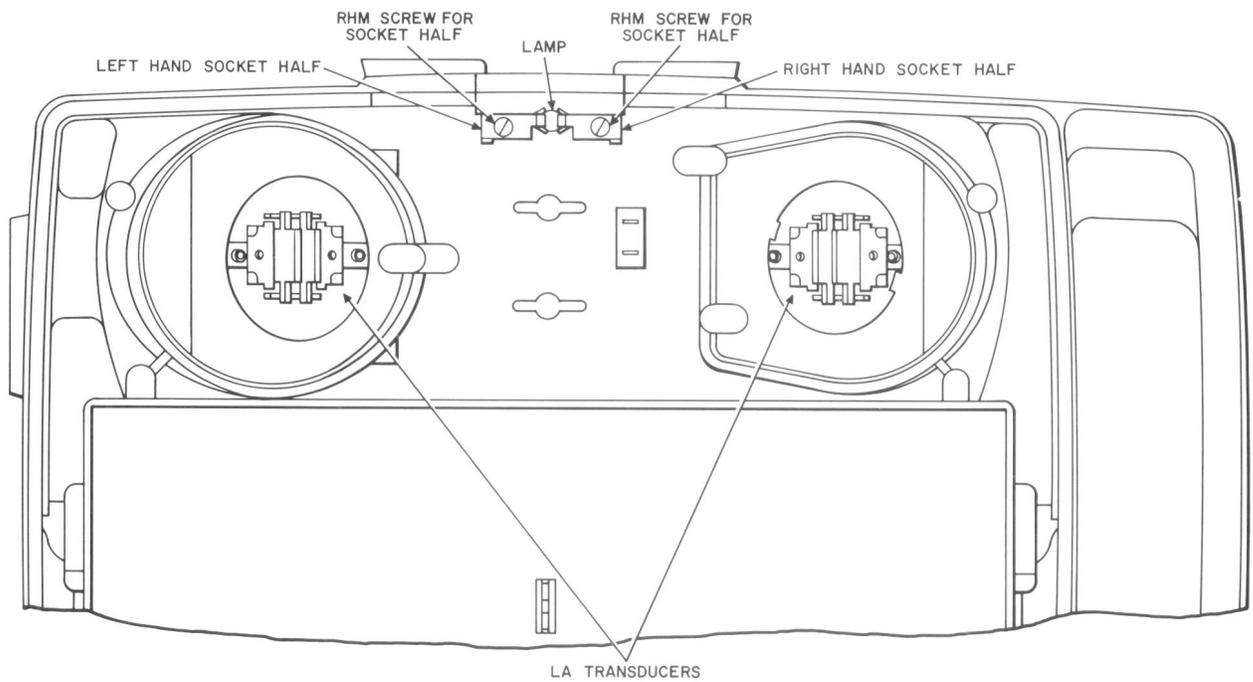

Fig. 3—LA2 Transducer Positioning and Data Lamp Access
4.01 To replace a defective DATA lamp, remove the bottom cover as described in 3.01, refer to Fig. 3, and perform the following:
- (b) Verify that the receive and transmit LA transducers are positioned as shown in Fig. 3.